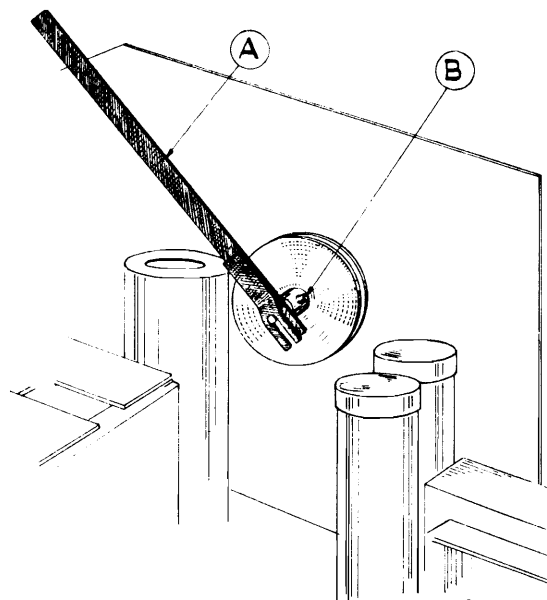

Fig. 6.
3. Place fork A (Fig. 6) on the pointer spindle with one prong in the groove in the spindle and the other gripping the flat end of the spindle.